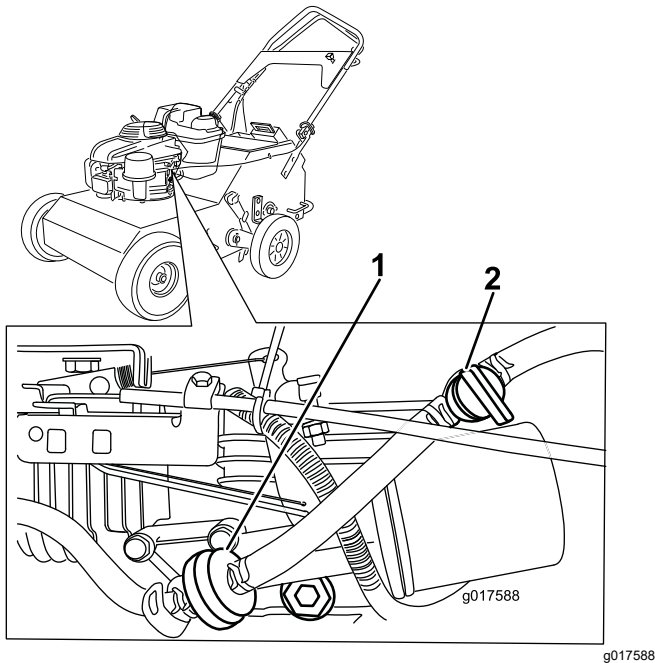

Figure 12
2. Open the fuel valve by turn it in-line with the fuel hose (Figure 12).
3. Move the throttle control all the way forward to the Choke position (Figure 12).